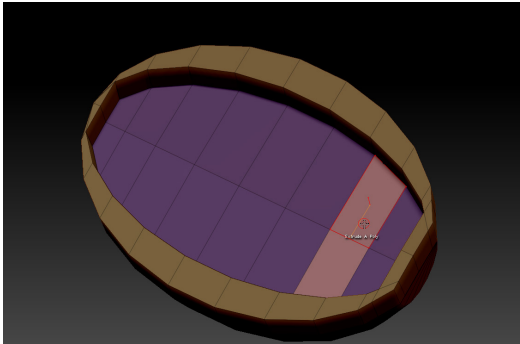
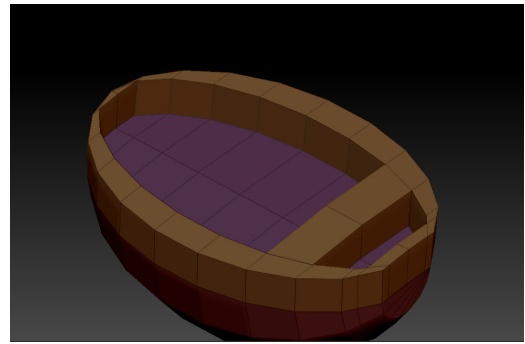

Figure 3-117 The selected polygons
Figure 3-118 The polygons extruded
8. Select the polygons using the ALT key, as shown in Figure 3-117, and drag the cursor upward; the polygons are extruded, as shown in Figure 3-118 .